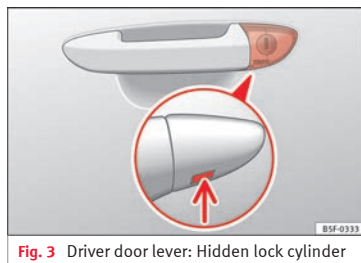

Fig. 3 Driver door lever: Hidden lock cylinder
- » **Fig. 3** (arrow) then remove the cover upwards.